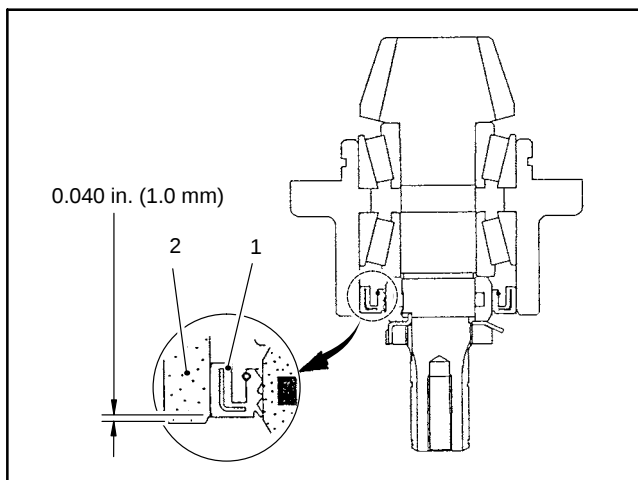

Figure 79
3. Coat a new oil seal with grease and install as shown in Figure 79.